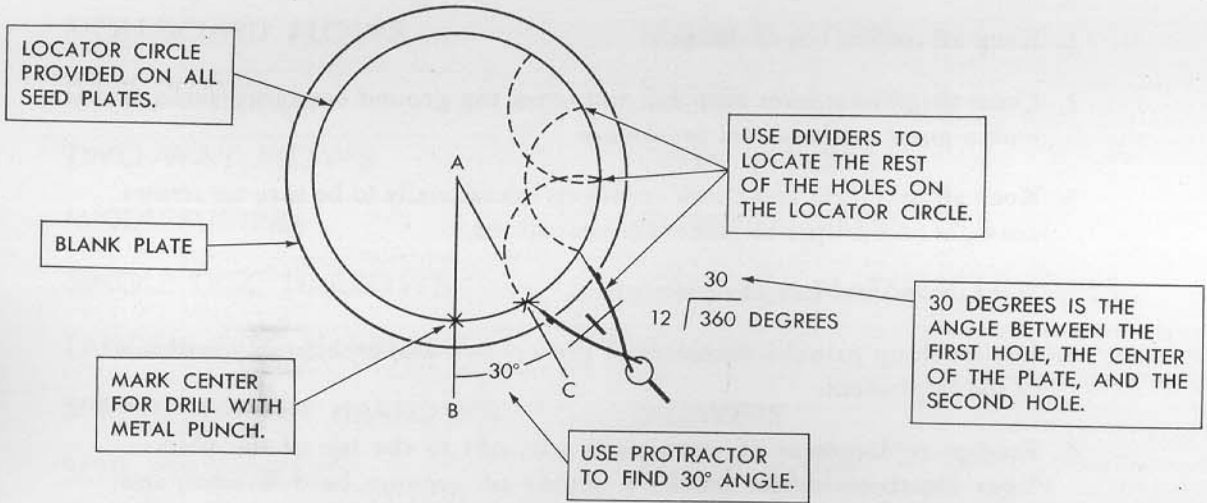

Figure 23
Each blank seed plate is provided with a locator circle, as shown in Figure 23, to facilitate locating holes. Make a drawing the same size as the locator circle and draw a straight line from the center to the outside. See line (A) (B), Figure 23. Determine the number of holes desired from the dropping distance chart on page 19. Divide the number of holes to be drilled into 360 (number of degrees in a circle) which will give the angle line (A) (C) in relation to line (A) (B), Figure 23. With a protractor mark the angle and draw in line (A) (C). Set a pair of dividers at the distance given between where line (A) (C) and line (A) (B) cross the locator